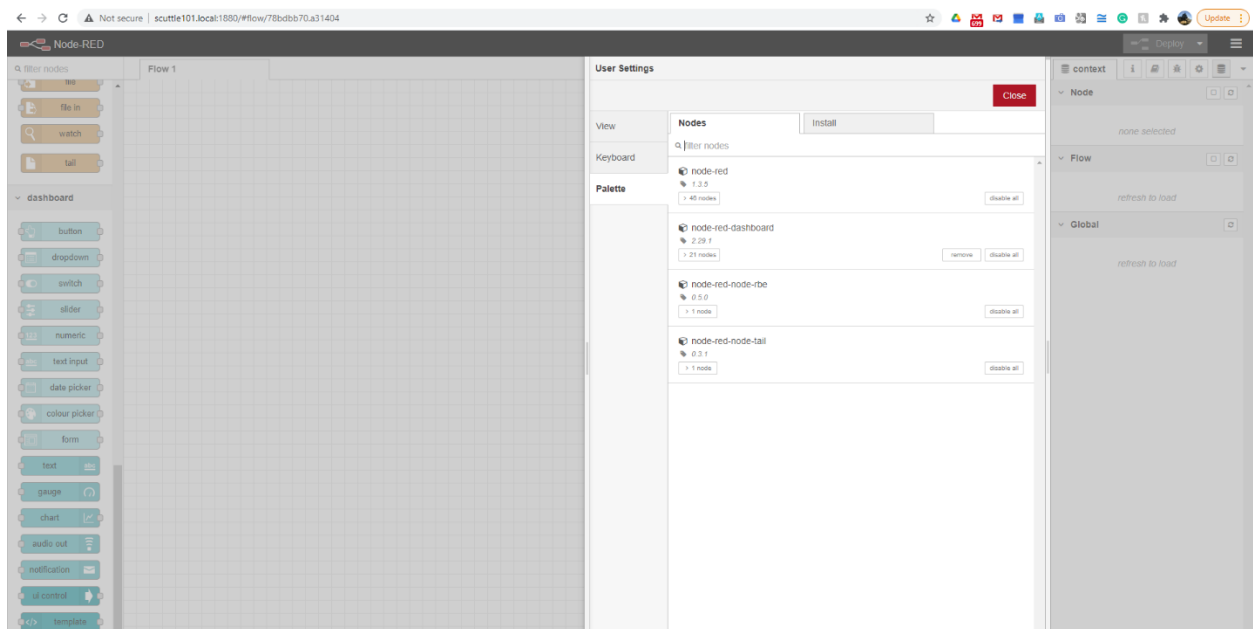

Figure 16
- i. This will open a user settings window as shown in the Figure 16 that shows the dashboard package in the nodes that are installed.